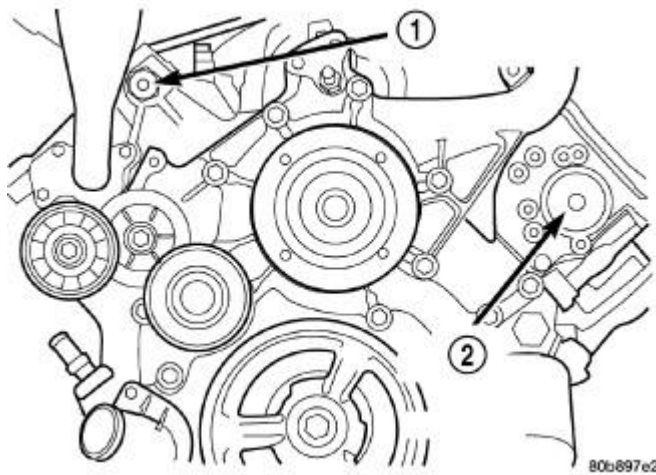

Fig. 161: Access Plugs From Left And Right Cylinder Heads
7. Remove the access plugs from the left (2) and right (1) cylinder heads for access to the chain guide fasteners. Refer to **Fig. 161**.